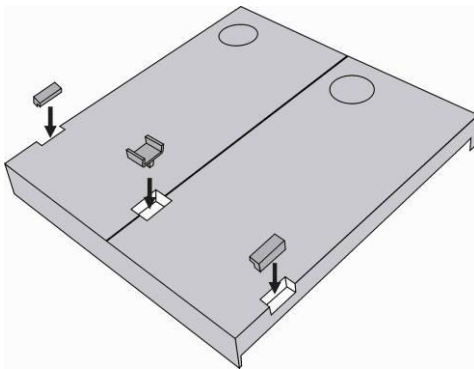

Figure 2.4 Multiple-Module Assembly
4. In multiple-module assemblies connect the boxes according to Figure 2.4, placing the basic module to the left and the extending modules to the right. The interconnecting cable shall be connected later!
5. Install blank modules on the unused side holes as shown in Figure 2.4.